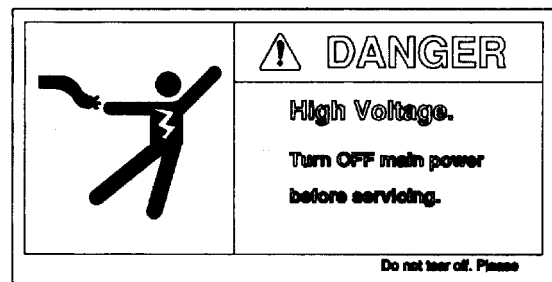

Fig 3.7.6
6. Turn off main power before servicing. (Fig 3.7.6). Located in position “F”